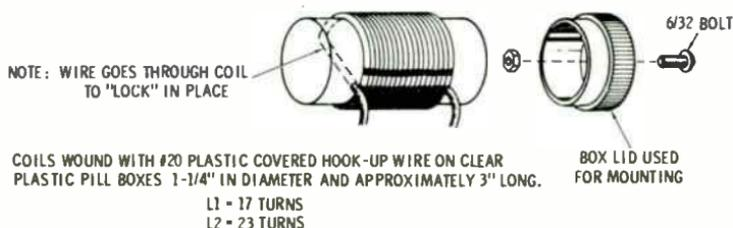

Fig. 6-8. Coil winding details.
- Connect the free end to pin 4 of SK2. (DS)
- Connect .01- μ F capacitor C9 to pin 4 of socket SK2. (S)
- Connect the other end of capacitor C9 to soldering lug SL4. (S)
- Solder a 3-inch length of wire to terminal U1. (S)
- Connect the other end of the wire to terminal T2. (DS)
- Connect one end of choke RFC to pin 3 of socket SK2. (DS)
- Connect the other end of the choke to terminal T2. (DS)
- Connect one end of .005- μ F capacitor C12 to pin 3 of socket SK2. (S)
- Connect the other end to terminal X1. (DS)
- Mount the two coils L1 and L2 in their respective positions. Notice that the coil form with the fewer turns (L1) is the one closer to the panel. (See Fig. 6-8 for coil detail.)
- Connect one lead of coil L1 to terminal X2. (DS)
- Connect one lead of coil L2 to terminal X2. (DS)
- Connect the other lead of L1 to the stator (stationary plate) terminal on the variable capacitor VC1. (DS)
- Connect the free lead of coil L2 to terminal X3. (DS)